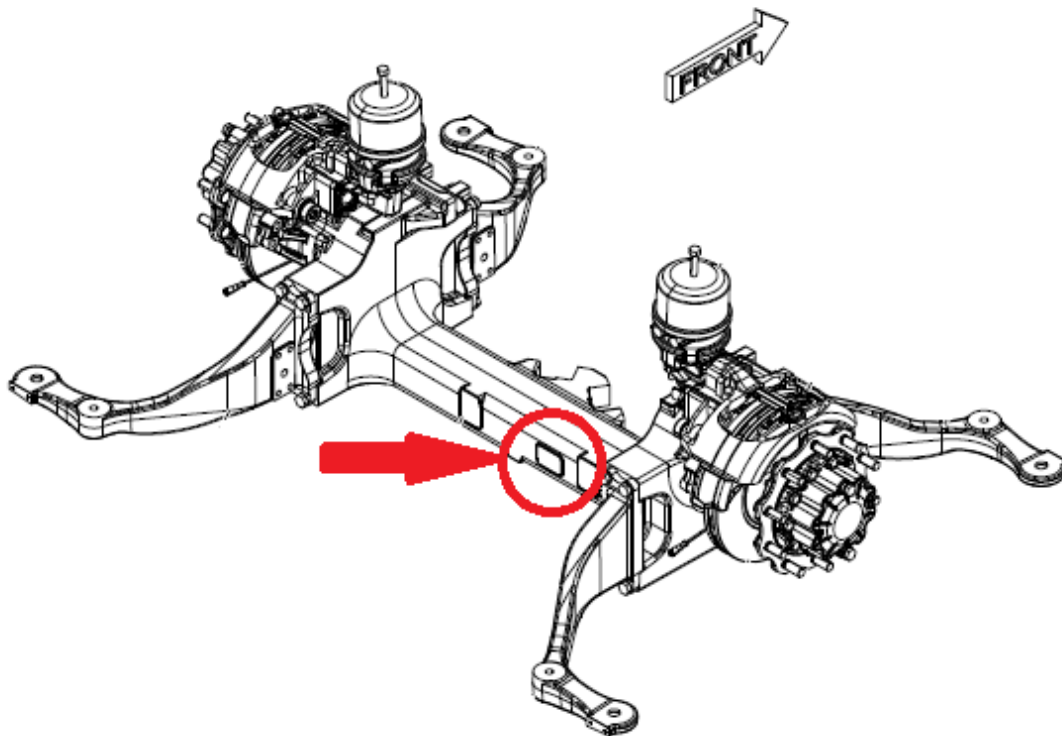

Figure 1: Location of center axle data plate
3. Record the center axle serial number on the inspection check sheet. The axle serial number is located on a data plate which is mounted to the rear of the axle beam, as shown in Fig. 1. If required to access the data plate, raise coach in accordance with the New Flyer Service Manual. Use jack stands as appropriate if lifting equipment will obstruct the view of the axle beam.